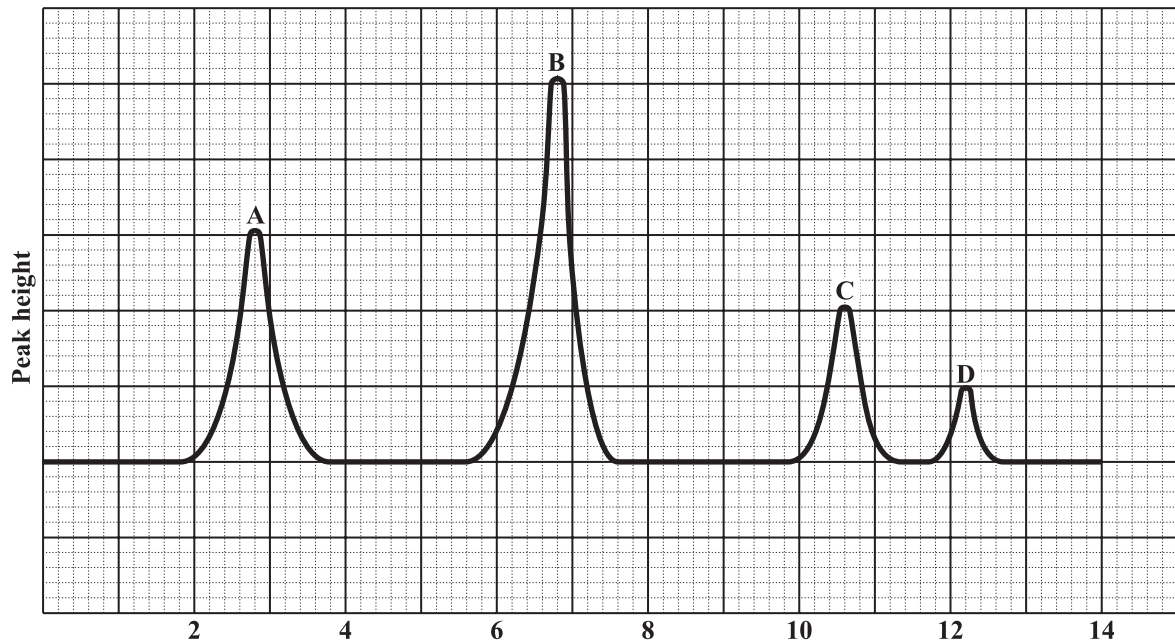

Figure 2: Chromatogram
2. The chromatogram in Figure 2 is obtained when a mixture of organic compounds, A – D is analysed by gas-liquid chromatography.